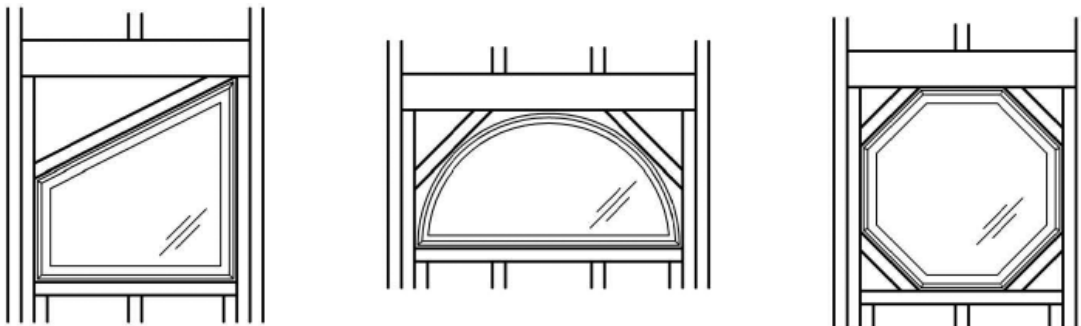

FIG. 1
- Framing recommendations for radius and geometric windows are shown in Fig. 1 below.